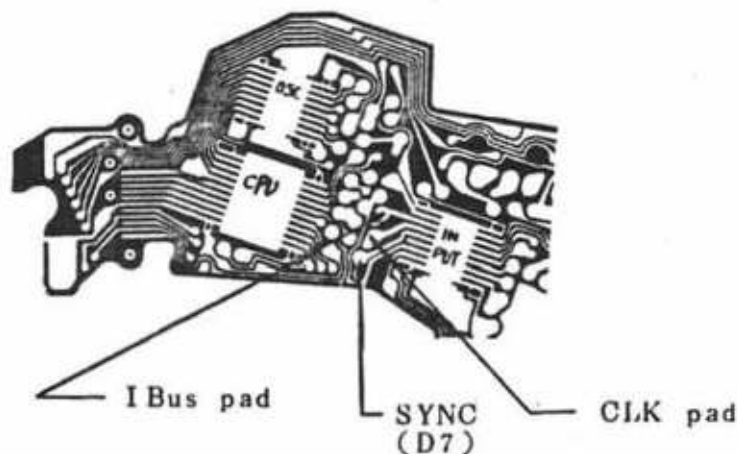

Fig. 2-28
2. Attach test leads to the I BUS, CLK and SYNC (D7) test pads on the ridge of the main flex over the pentaprism. (Fig. 2-28)